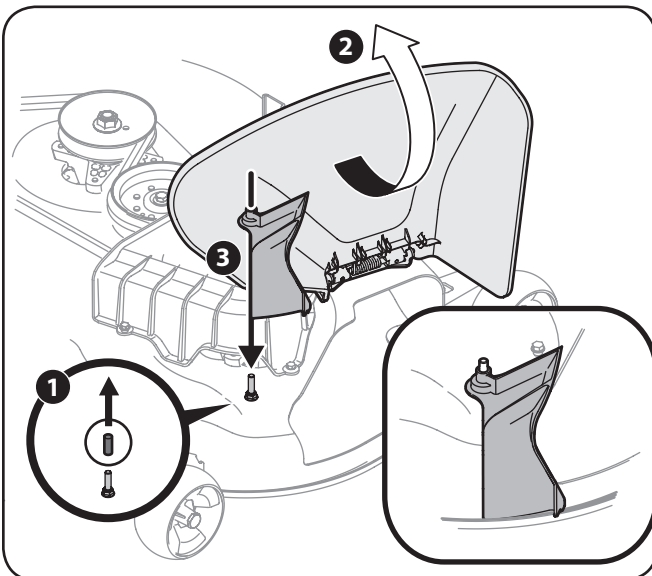

Figure 5-21
- Remove the deck pin rubber protective cap, 1 in Figure 5-21.
- Raise the chute deflector (2 in Figure 5-21) on the deck and hold it while you install the (731-10133) chute adapter(3), included in hardware pack 689-00341, onto the deck as shown in Figure 5-21.